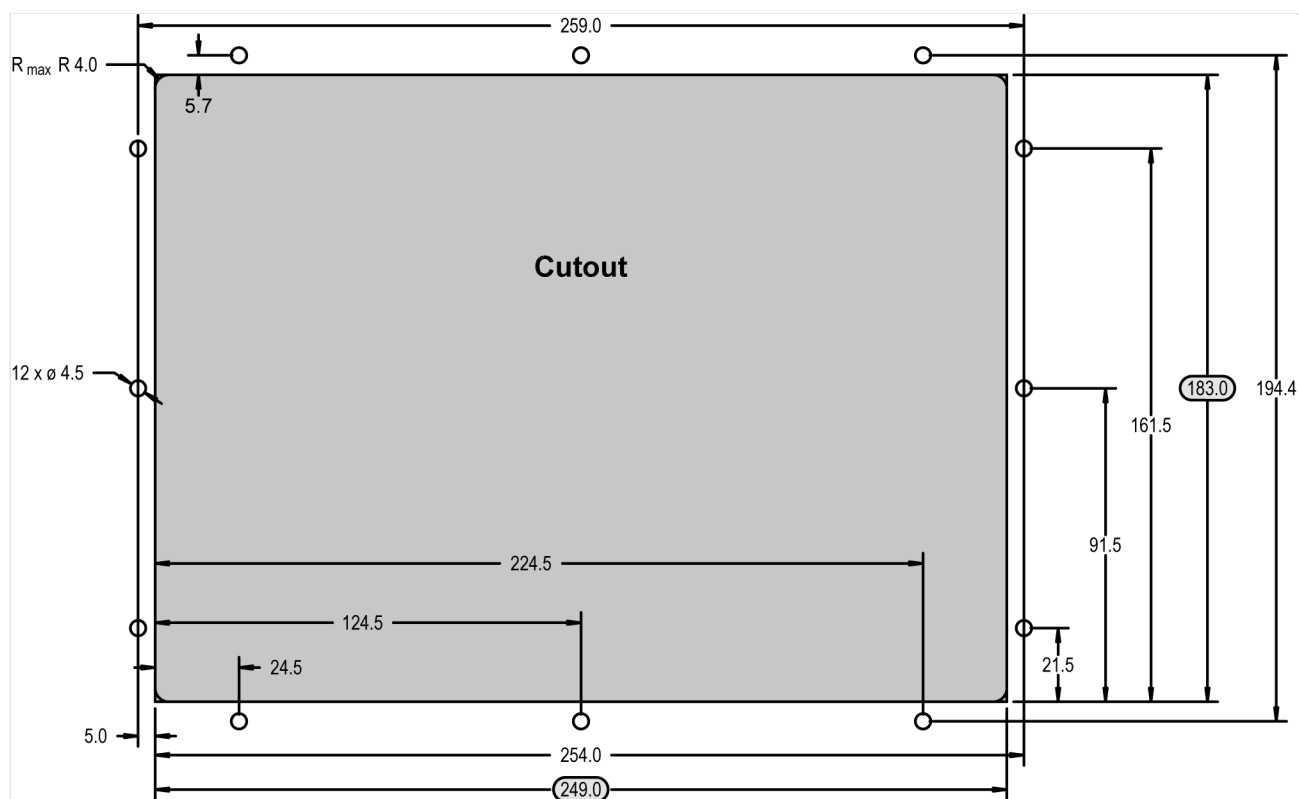

Fig. 16: Plastic housing - drill plan
The housing is equipped with 12 nut inserts (↪ Fig. 16), which must all be tightened properly to achieve the required degree of protection.
1. ▷ Cut out the panel and drill the holes according to the dimensions in  Fig. 16 (dimensions shown in mm).